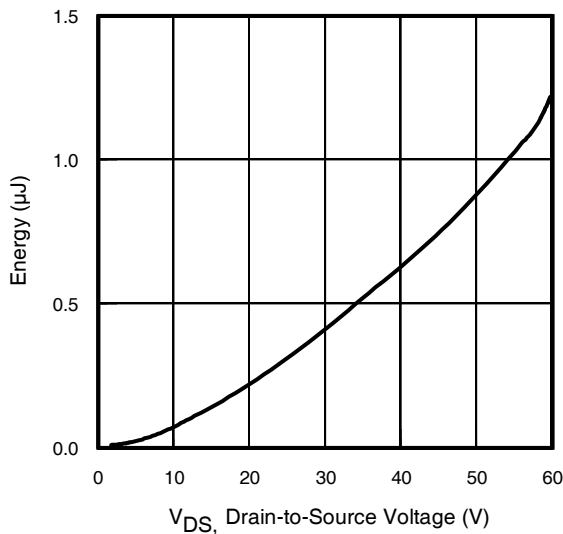

Fig 11. Typical C_{OSS} Stored Energy
| C _{oss} eff. (ER) | Effective Output Capacitance (Energy Related) | — | 720 | — | | V _{GS} = 0V, V _{DS} = 0V to 48V ^⑦ , See Fig. 11 |